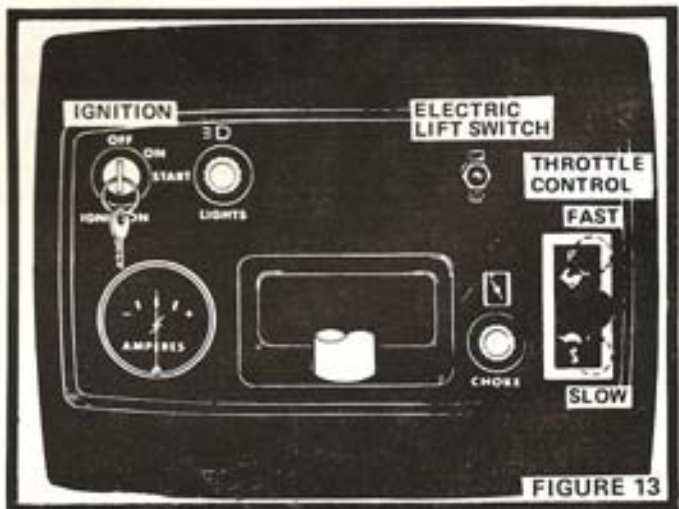

FIGURE 13
6. Move Throttle Control Lever to middle position (Fig. 13).
7. Pull Choke out (Fig. 13).
8. Turn Ignition Key to "START" position until Engine starts (Fig. 13). Release key into "ON" position.
NOTE: The Electric Lift Switch (Fig. 13) raises or lowers an attachment when used with an Electric Three Point Hitch (optional equipment).